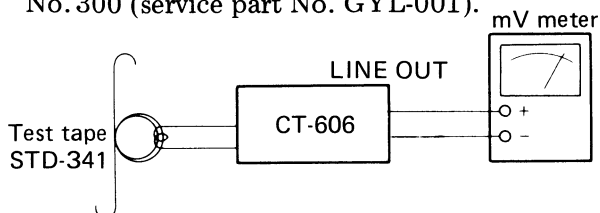

Fig. 42 Connection of head angle adjustment
1. Connect a millivoltmeter to the LINE OUT terminals (Fig. 42).